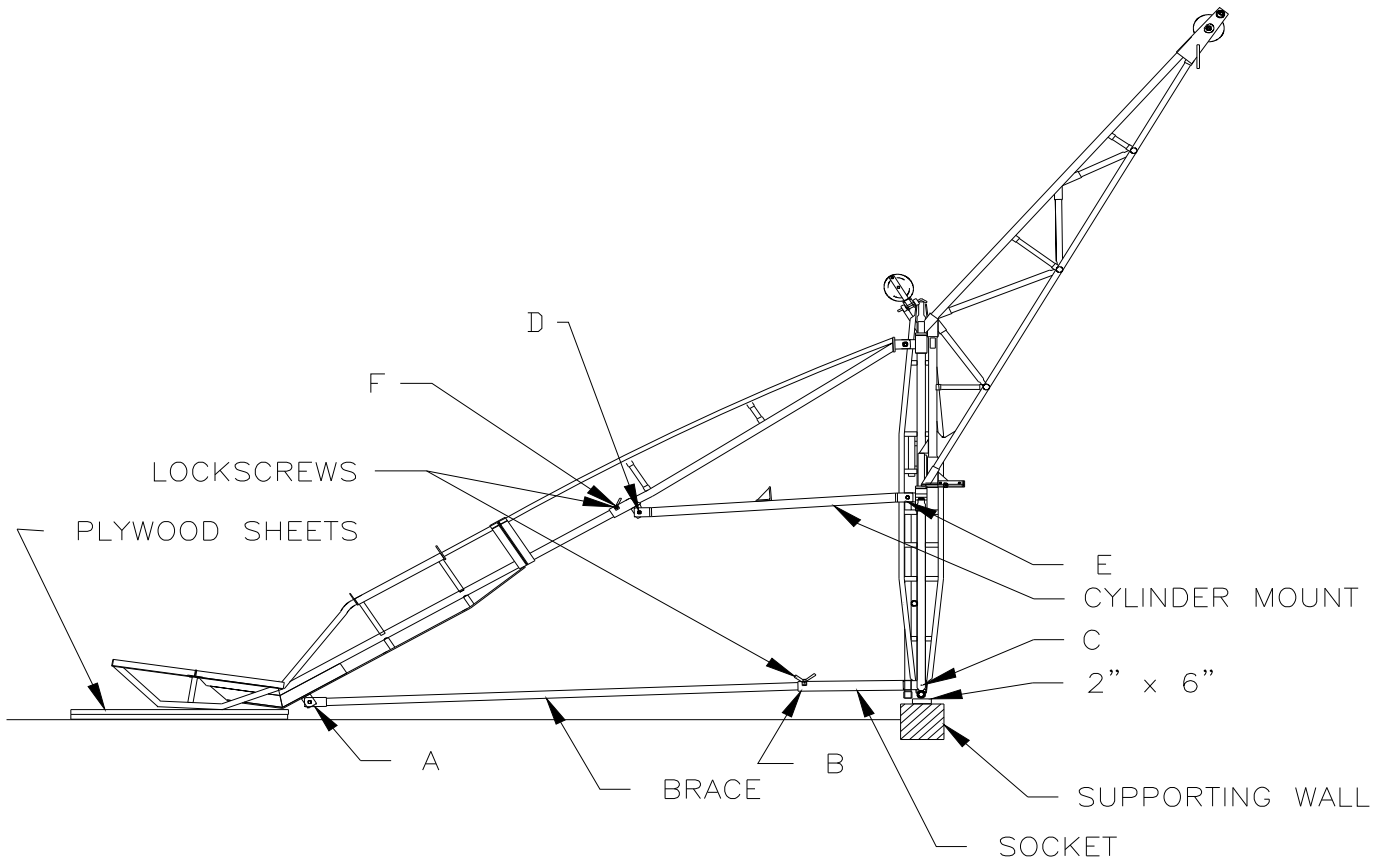

Figure 3-9.
- Connect the Cylinder Mount to the Front Leg at point “E” using the pin and hairpin as shown in Figure 3-9. Connect the Cylinder Mount to the Counterweight Leg via the sliding tube at point “D” using the pin and hairpin. The flat face of the Cylinder Mount must point toward the Front Leg. Tighten the two lockscrews at point “F” on the sliding tube connecting the Cylinder Mount to the Counterweight Leg.
- Slide the Socket into the Brace at point “B” as shown in Figure 3-9. Note that this Socket comes with the block carton.
6. Connect the Brace to the Counterweight Leg at point “A” using the pin and hairpin as shown in Figure 3-9. Connect the Socket to the Front Leg at point “C” using the pin and hairpin. Tighten the two lockscres near point “B”.
7. Move hoist assembly near roof edge of supporting wall. Ensure the Front Leg is mounted to 2"x 6" board to distribute the load and the board fastened to the supporting wall. See Figure 3-9. Ensure 3/4" plywood is placed under Counterweight Basket to distribute the weight. Lower Operator Fence on Front Leg to operating position.